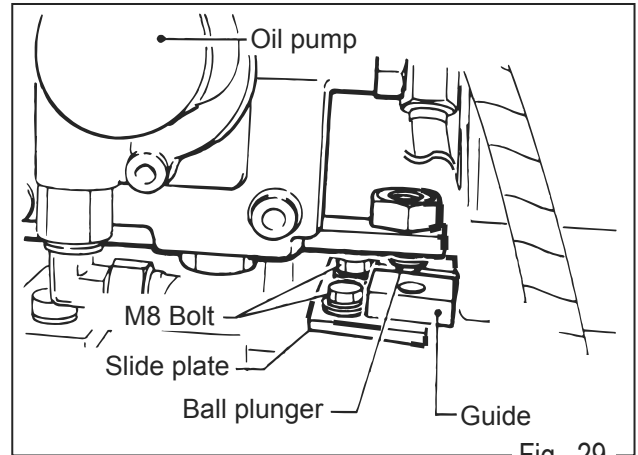

Fig. 29
12.4 Neutral Adjustment of Travel Lever (Fig.29)